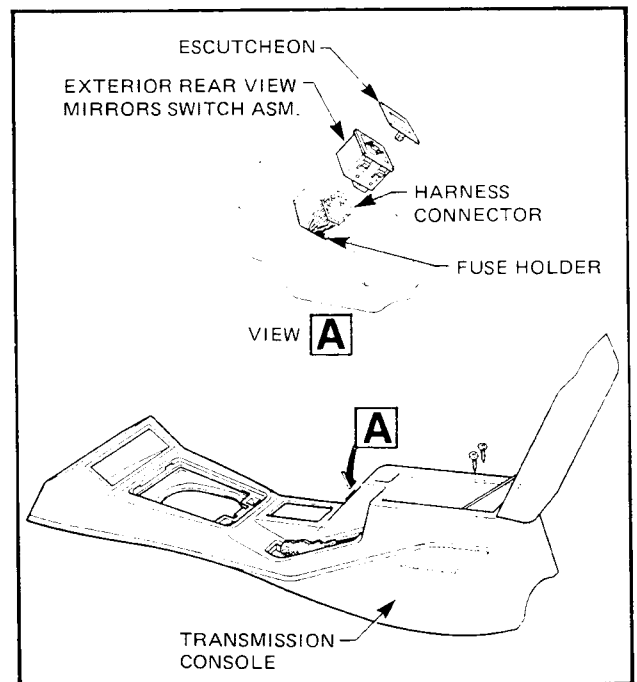

Figure 1A-67
3. Remove side finishing covers attaching screws (Fig. 1A-70).
4. Loosen rear guides shaft screws until rear of sliding panel drops down using 3 mm allen wrench (Fig. 1A-71).
5. Remove front guide shoulder bolts using 7 mm socket (refer Fig. 1A-71).